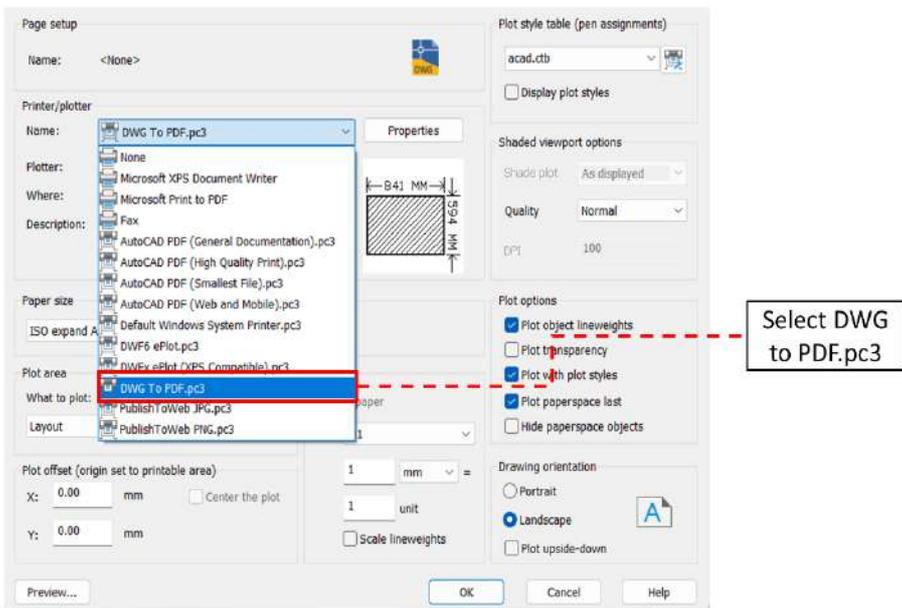

Fig. 5.7: Select DWG to PDF.pc3
Step 4: In the Page Setup dialog box, find the Printer/Plotter group and select "DWG to PDF.pc3" from the "Name" drop-down menu (refer to Fig. 5.7).